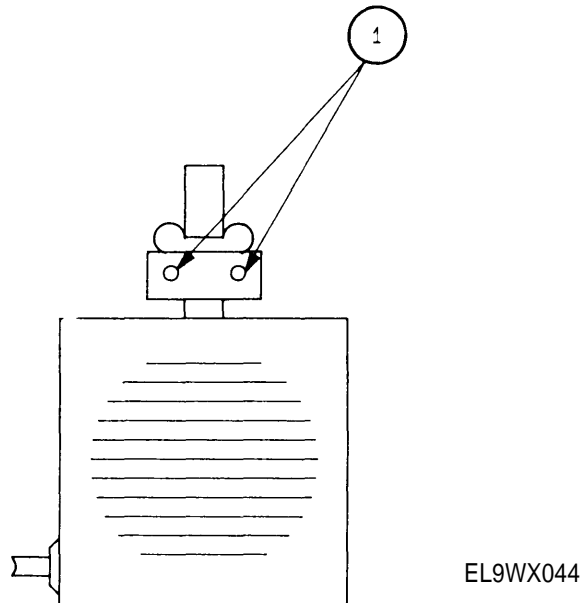

Figure 6-4. Loudspeaker Replacement
- (2) Remove two bolts (1, fig. 6-4) securing loudspeaker to vehicle to free loudspeaker.
- (3) Install replacement loudspeaker with two bolts (1, fig. 6-4), star washers, and nuts.